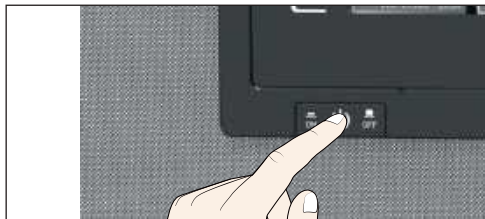

Fig. 26 Switching off the appliance
5. Switch off the appliance with the main switch (Fig. 26).